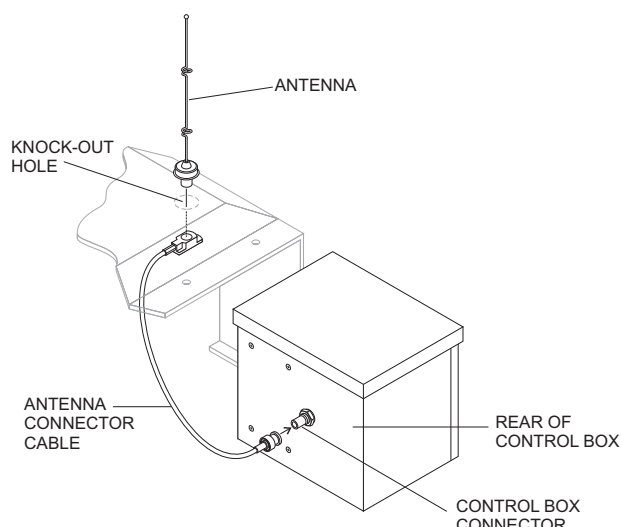

Figure 37. Antenna Installation
5. On the top of the unit, to the right of the control box (Figure 37), hammer out the knock-out hole and install the remote antenna.
6. Connect the antenna cable to the connector on the rear (Figure 37) of the control box.